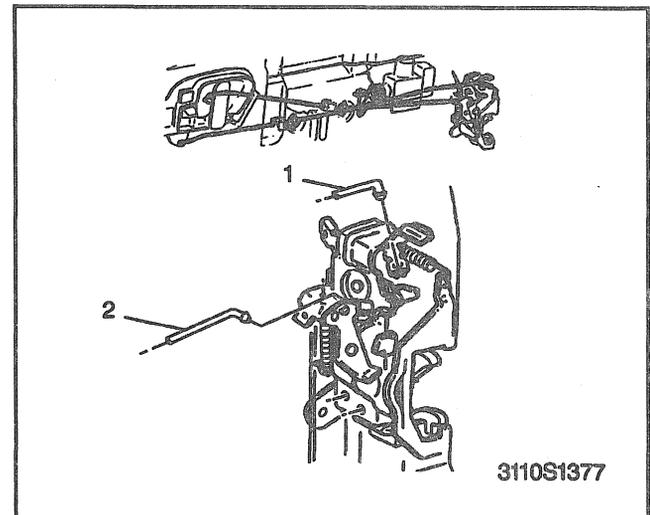

Figure 27—Inside Door Handle and Lock Control Rods
Remove or Disconnect (Figures 27 and 28)
4. Inside door handle and lock control rods (Figure 27).
Install or Connect (Figures 27 and 28)
3. Inside door handle and lock control rods (Figure 27).